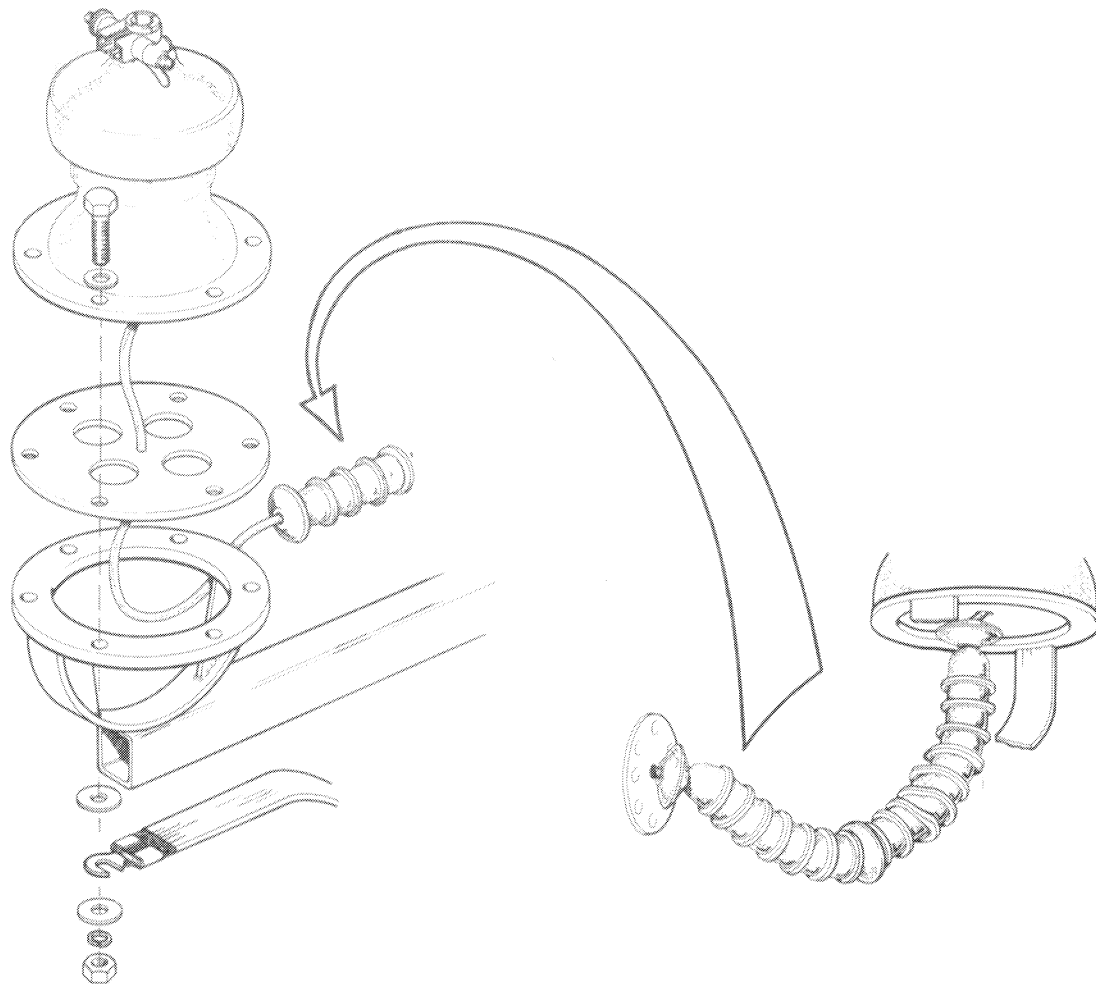

Fig. 18 Installation of antenna base
5. $\frac{1}{2}$ ton vehicles: Using 5 off M6 x 20 bolts, nuts and washers and 1 off M6 x 25 bolts, nut plain and spring washers and two large diameter washers, bolt the base, antenna element to the side antenna mounting. Fit the longer bolt to the side away from the vehicle and to the front. Clamp lead, electrical (5995-99-645-0104) to the underside of the side antenna mounting using the longer bolt as in fig. 18.
6. Thread onto the lead, electrical one bushing, rubber (5340-99-103-4883), 7 ($\frac{1}{2}$ ton vehicles) or 9 ($\frac{3}{4}$ ton vehicles) insulator bowls, plastic (5970-99-103-5758) and another bushing, rubber. Fit these insulator bowls open end downward. Thread on another 7 insulator bowls and a bushing, rubber. Fit these insulator bowls open end upward. Pass the lead, electrical through the hole in the tilt. All the insulator bowls should now be open end down as in fig. 18.